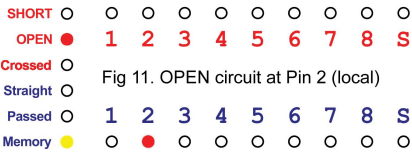

Fig 11. OPEN circuit at Pin 2 (local)
b) An open connection was found, usually indicated by a single LED (Fig11.).